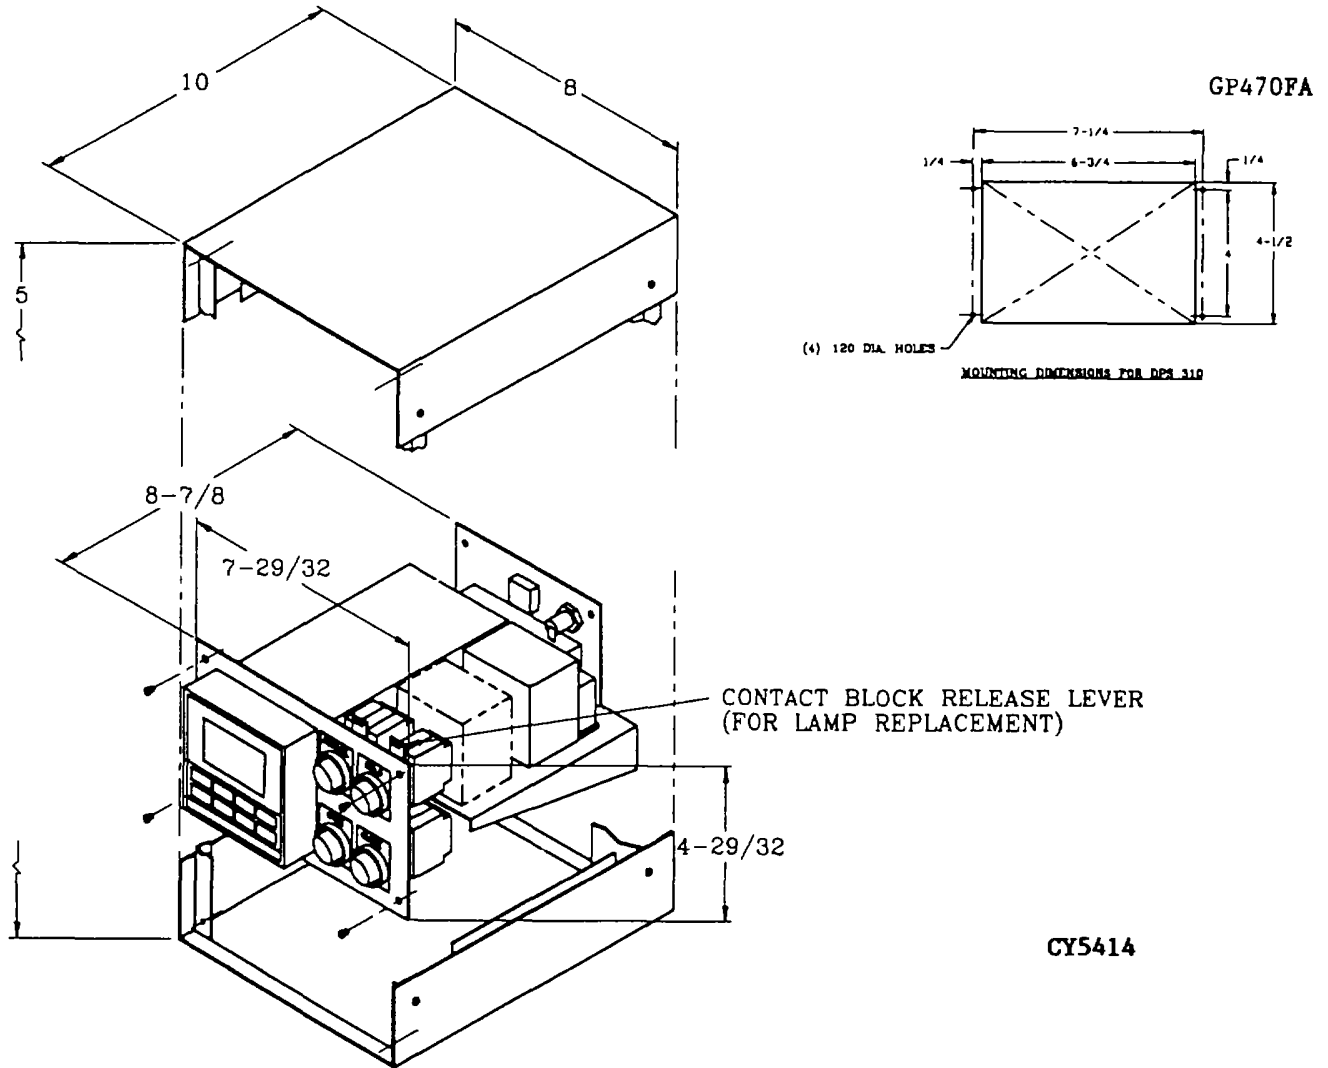

Fig. 2
The controller assembly is available in two models. The DPS-300 is a stand alone unit and should be placed on a flat surface convenient to the operator. The DPS-310 is a panel mount unit and requires a 4-1/2" high x 6-3/4" wide cutout. Reference figure 2 for detailed dimensions.
3. Move the contact block release lever to the right as viewed from the front. (See figure 2.)